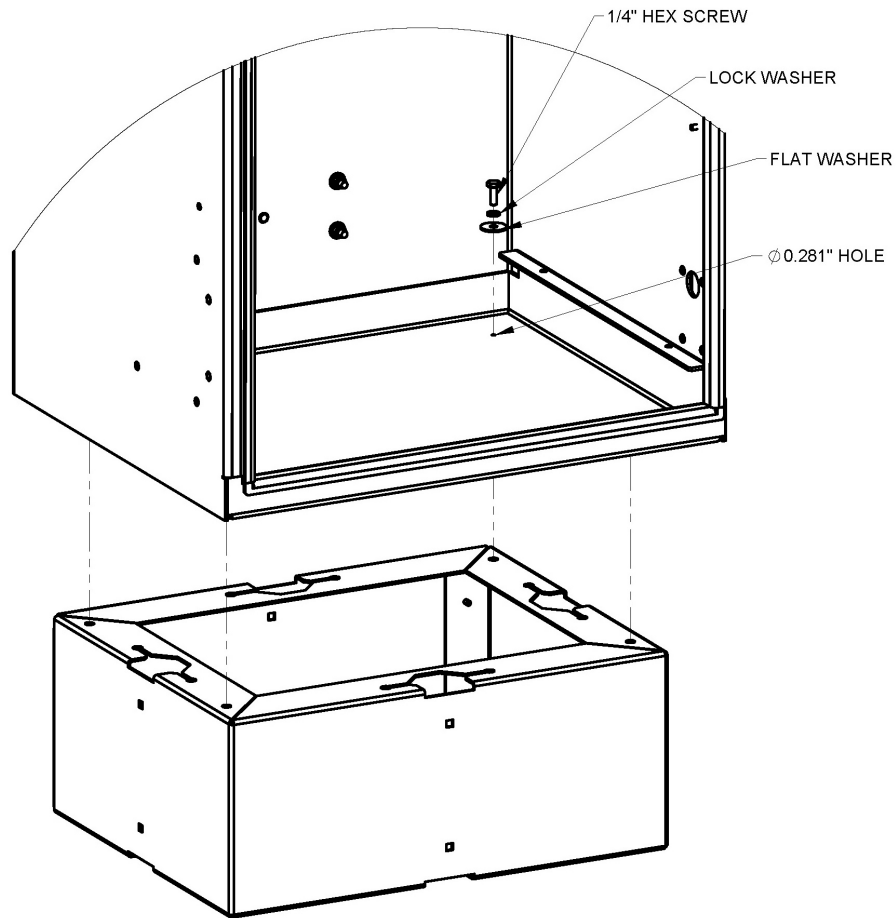

Figure 10 — Securing Enclosure to the Plinth
6. Secure the enclosure to the plinth with the supplied 1/4" hardware. Torque bolts to 65in-lb (7N-m). See Figure 10.